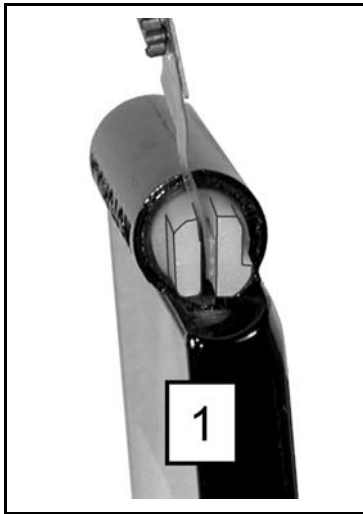

Figure 7-21.
1. Ensure alignment of cam follower with flex strip (see Figure 7-21).